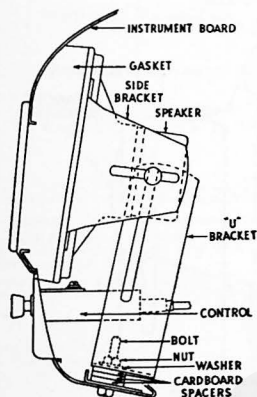

Figure 3
3. Fasten the "U" bracket to the instrument board flange with the nuts, bolts, and washers, using three cardboard spacers under each bolt. Make sure that the long slots in the sides of the "U" bracket are toward the grille (See figure 3).
5. Loosely assemble the side brackets on the speaker to the "U" bracket and force the speaker forward and in position as shown in Figure 3. Then tighten the nuts.